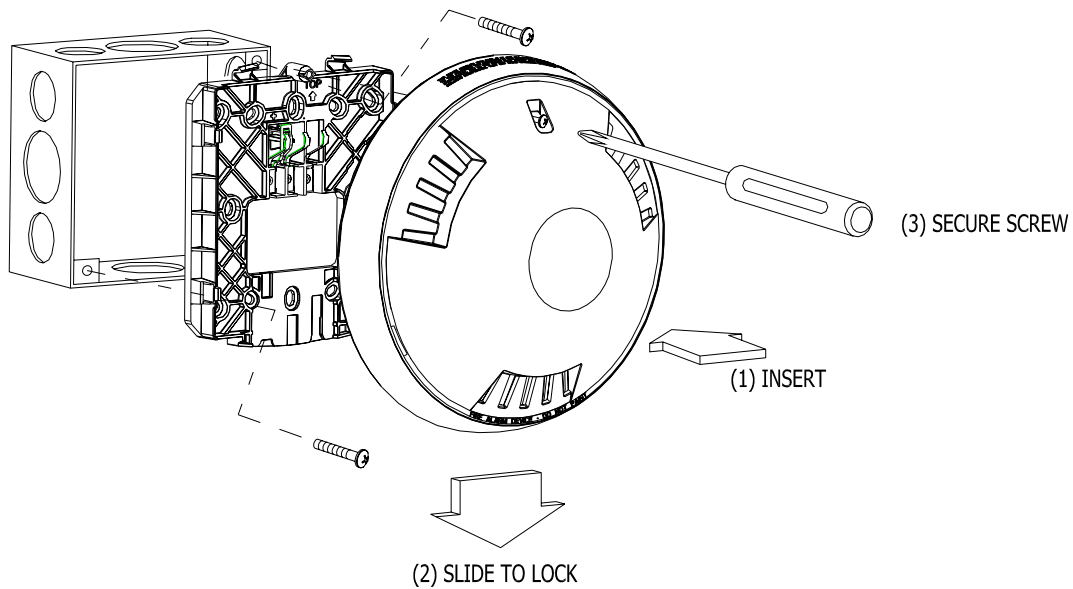

Figure 4: Installation
1. Install mounting plate as shown in Figure 4 to a single-gang, double-gang, 4" square or octagon backbox with the provided pan head screws.
5. Remove terminal cover before snapping or installing the appliance into the mounting plate per Figure 4.